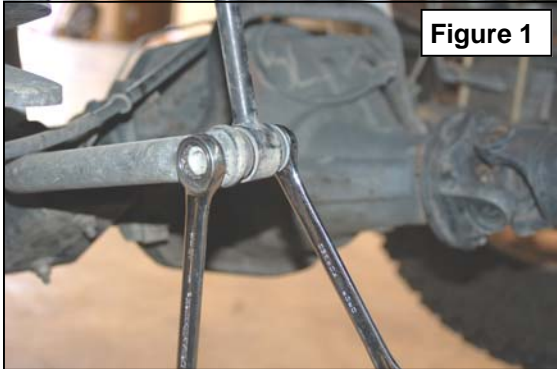

Figure 1
2. Remove the front anti-sway bar links from the frame mount and the sway bar using a 19 mm wrench. Retain the upper and lower mount hardware for re-use. **See Figure 1.**